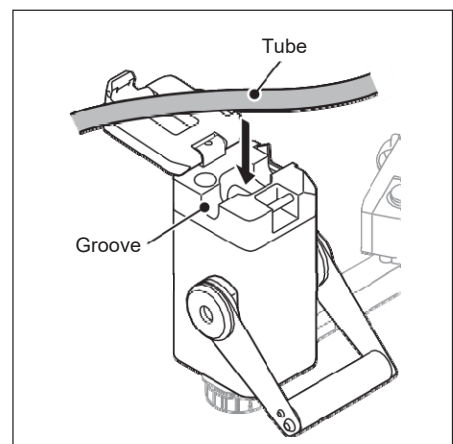

Figure 1-54
3. Move the Fast Clamp as necessary and insert the tube into the groove. (Figure 1-54)